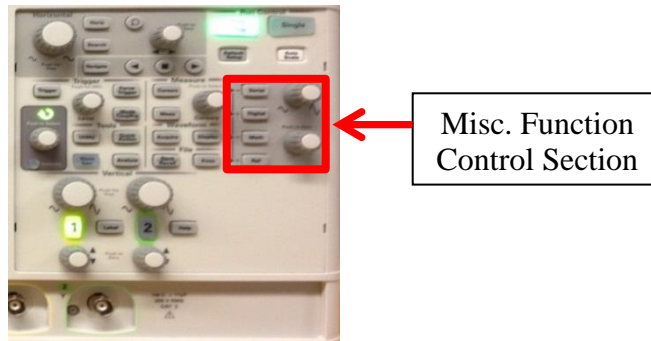

Figure 4
- d. Configure the inputs for Bandwidth (BW) Limiting. This puts a 20 MHz low-pass filter on the input signals to eliminate high frequency noise.
- iv. Select the “Math: f(t)” as the source with the softkeys. A differenced waveform will appear on the oscilloscope screen. The differenced waveform’s Volts/Div and vertical position may be adjusted using the knobs in the “Misc. Function Control Section” shown in Fig. 4.